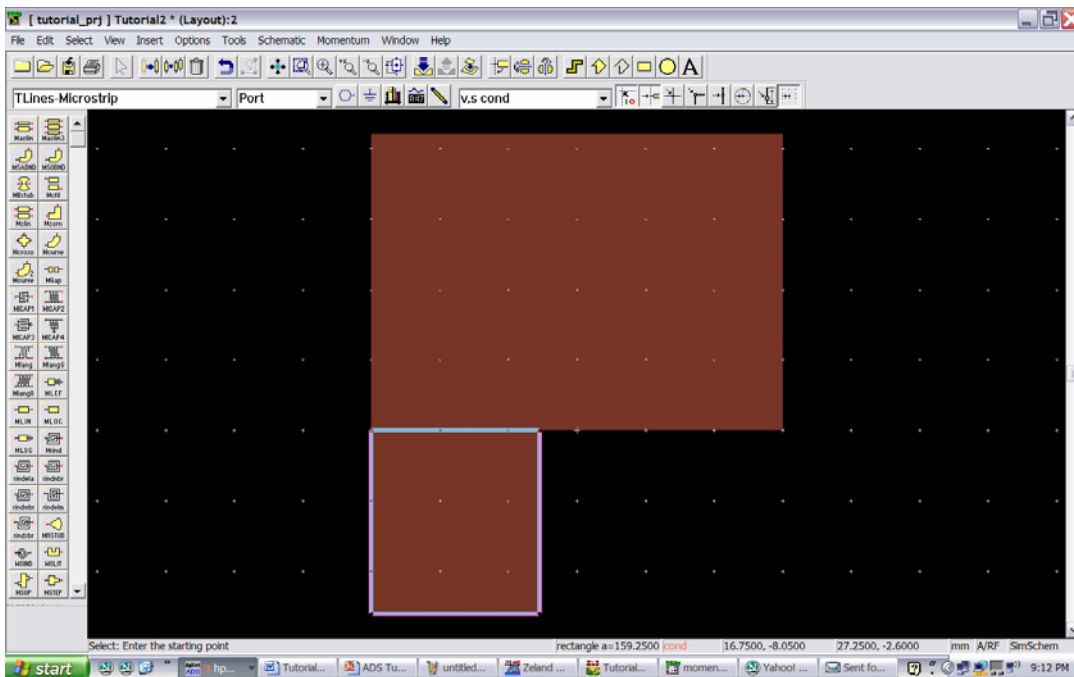

Figure 5.
8. Now we can start drawing the patch antenna and its feeding structure. Let us start by drawing a rectangle. Select the “Insert Rectangle” button () and the shape of the mouse cursor changes. As you move the mouse cursor on the layout screen, the values of the x and y coordinates are displayed on the screen. Move the mouse to ($x = -15$ mm, $y = 0$ mm) and click on the left button; this places a vertex at that point. Notice that after placing the first vertex, when you move the mouse cursor the relative coordinate values are shown and the absolute coordinate values are no longer shown; this facilitates determining the length and width of the rectangle. In this case, we want to draw a rectangle with the length of 30 mm and width of 21 mm. Move the mouse cursor around to the point where $dx=30$ mm and $dy=21$ mm and click on the left button. The first rectangle is drawn. Repeat this process and draw another rectangle with the dimensions of 12.25 mm × 13 mm. This second rectangle should be on the bottom left side of the first one as shown in Figure 5